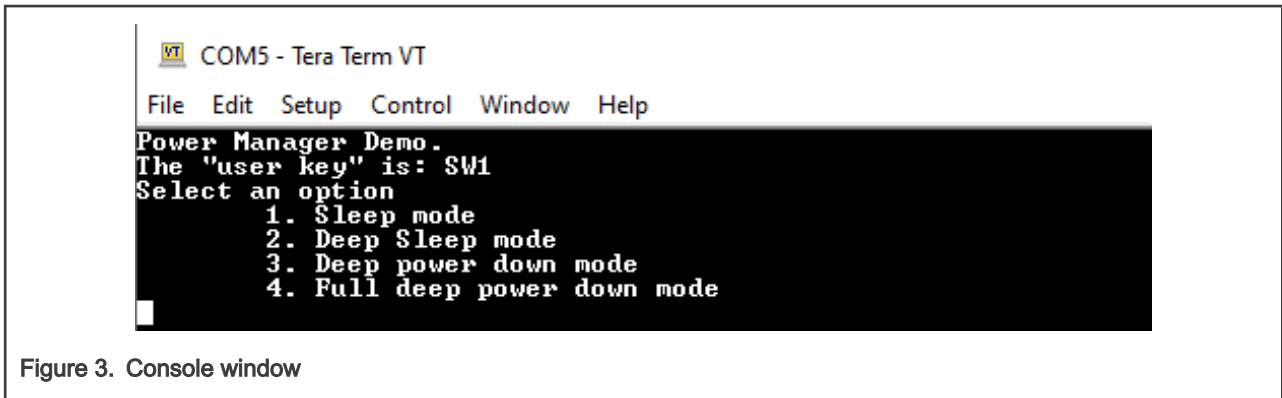

Figure 3. Console window
4. Reset the board using SW3 RESET switch and serial terminal. See Figure 3 for display output.